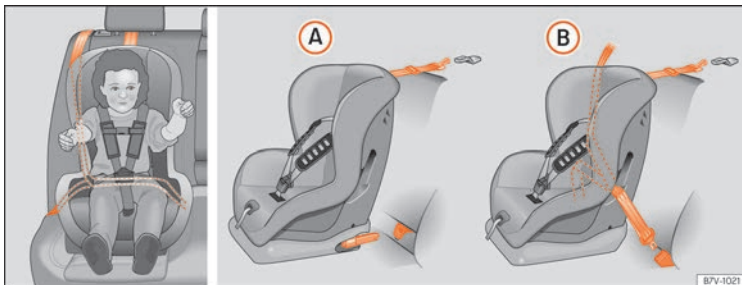

Fig. 38 On rear seats: possible assemblies of children seats.
Figure » **Fig. 38 (A)** shows the basic child restraint system mounting using lower retaining rings and the upper retaining strap. Figure » **Fig. 38 (B)** shows the child restraint system mounting using the vehicle seat belt.